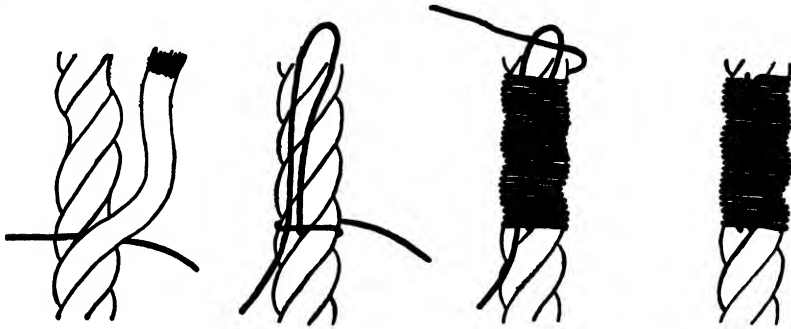

Fig. 8-2. Whipping an end of a rope is an effective way to prevent fraying.
1. Unlay one strand of the rope back an inch or two from the end (see Fig. 8-2).